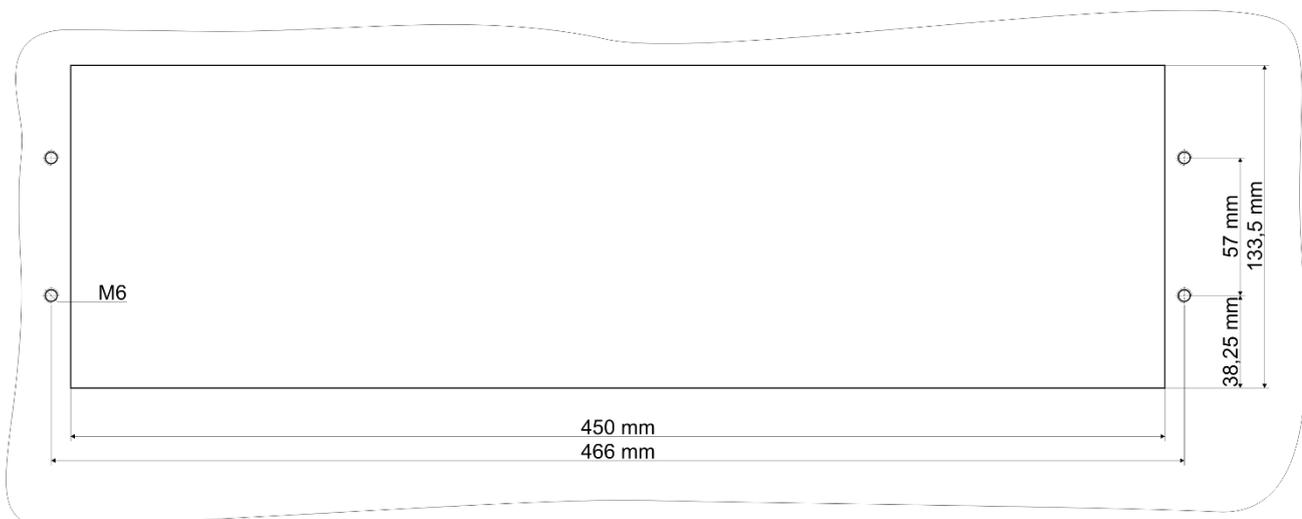

Fig. 10.1. Installation guidelines for the device in a 3U Euro cassette.
- for the Euro 19-inch 3U enclosure in Fig. 10.1,